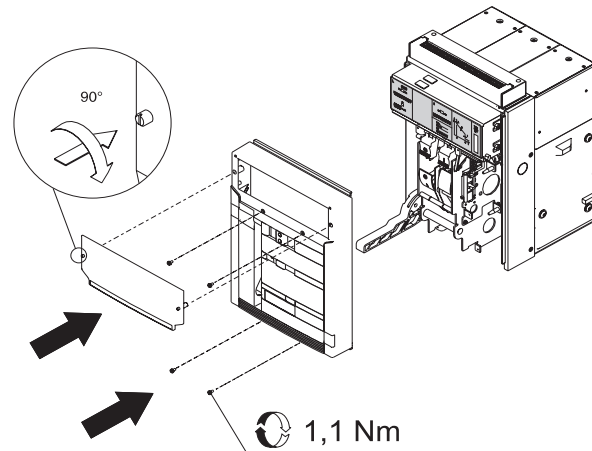

Figure 36.
- Refit the cap as indicated in Figure 36.